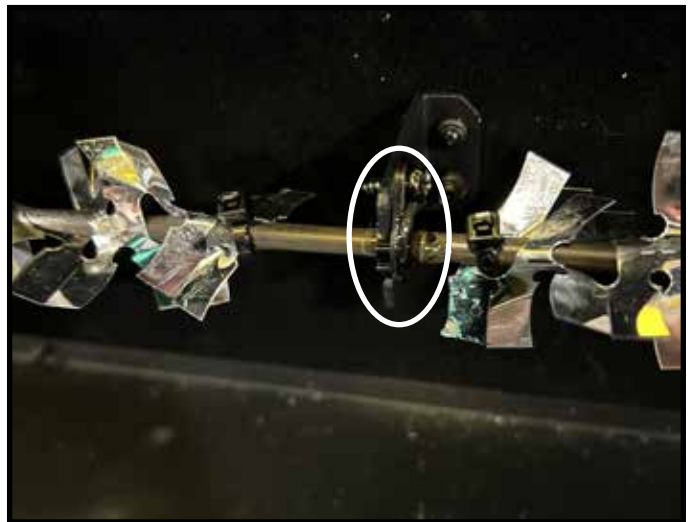

Figure 16 Rotisserie Removal
2. Remove Phillips screws from rotisserie bushings that attach to rotisserie bracket. See Figure 16.